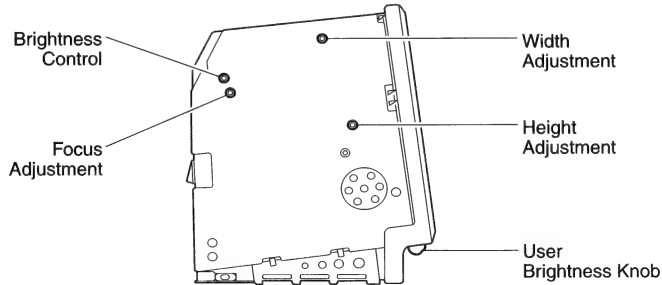

Figure 4 Video Adjustment Controls
3. Turn the user brightness knob (Figure 4) fully clockwise.
4. Using the alignment tool, turn the brightness control (Figure 4) fully counterclockwise so that white lines are visible on the screen. Then turn the brightness control clockwise until the white lines just disappear.
1. Use the plastic alignment tool to adjust the width adjustment (Figure 4) until the raster is approximately 7 inches wide.
2. Use the alignment tool to adjust the height adjustment (Figure 4) until the raster is approximately 4.7 inches high.
2. Turn the focus adjustment (Figure 4) fully clockwise. Then turn the focus adjustment back (counterclockwise) one-eighth of a turn and adjust for best overall focus.